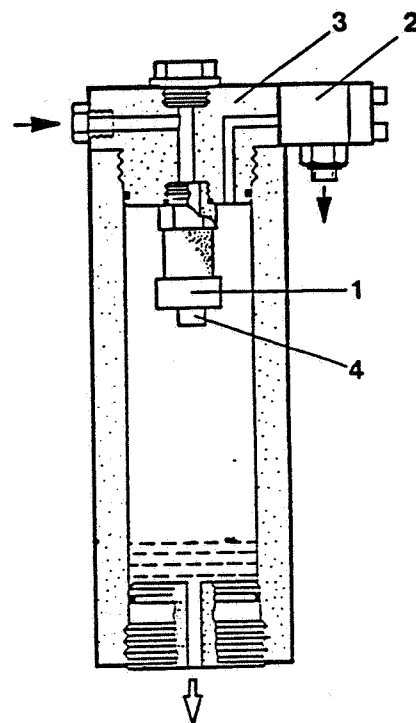

Fig. 5.2 Oil and water separator
The air leaving the final stage is cooled in the after-cooler to approx. 10 - 15 °C (18 - 27 °F) above ambient temperature and then enters the oil and water separator (fig. 5.2). The oil and water separator works by means of a sintered filter micro-cartridge (1) reliably separating liquid oil and water particles from the compressed air.
- Remove tube connected to non-return valve (2).
- Screw off filter head (3) and remove.
- Unscrew micro-cartridge (1) from filter head (3).
- Remove center screw (4) to remove filter elements (see fig. 5.2).